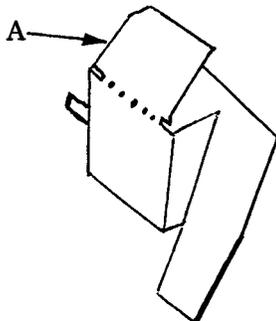

Figure 2
2. Slide the anti-theft cover on the hopper as shown in figure 2.